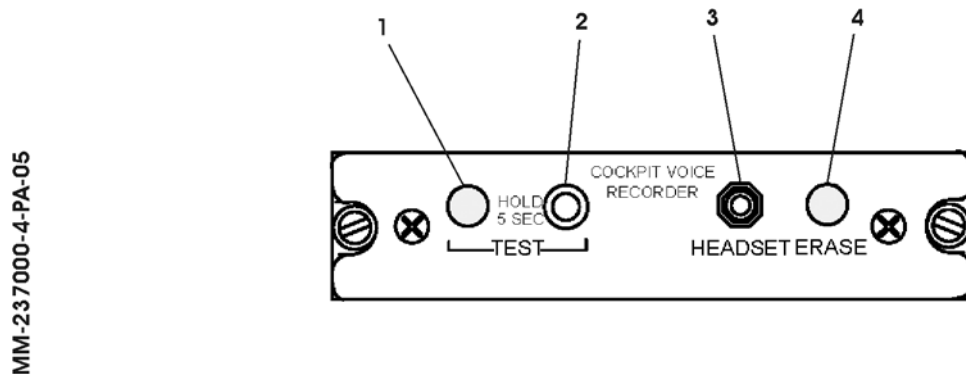

Fig. 4 - Control Panel S261
C. Recorder Control Panel S261 (Refer to Fig. 4)